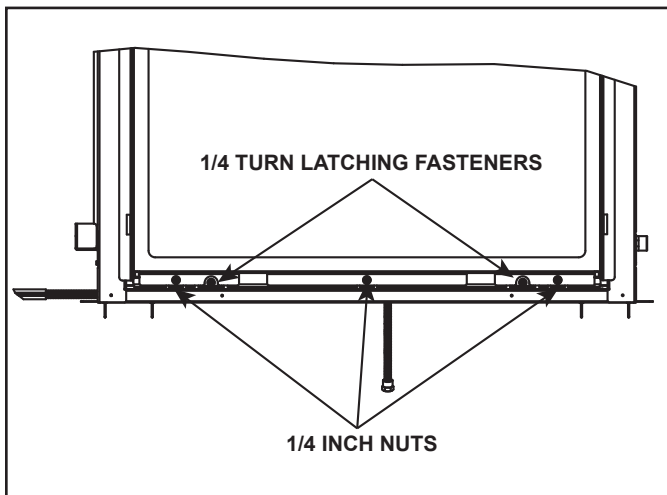

Figure 1.8. Door Latching Fasteners
1. Remove the three 1/4 inch nuts on the bottom of the glass frame. See Figure 1.8.